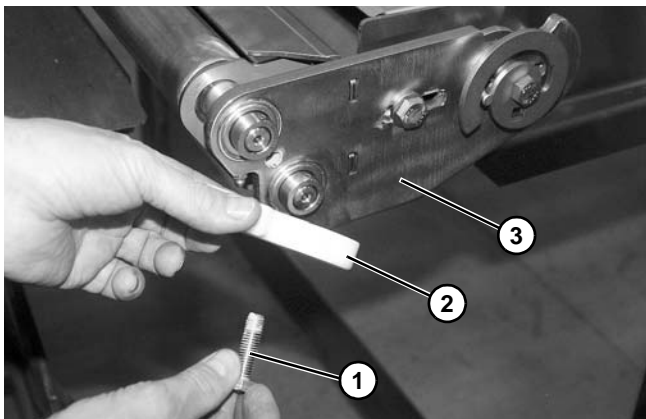

Figure 158
3. Remove screw (**Figure 158, item 1**) and bearing cover (**Figure 158, item 2**) from side plate (**Figure 158, item 3**).